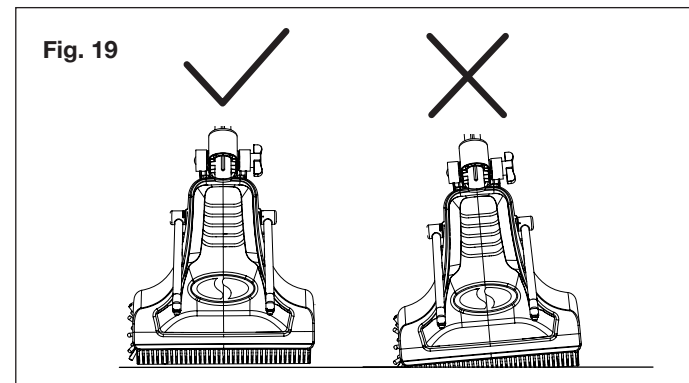

Fig. 19
2. Before starting, position the unit and make sure the brushes are evenly placed on the surface to be cleaned (Fig. 19).